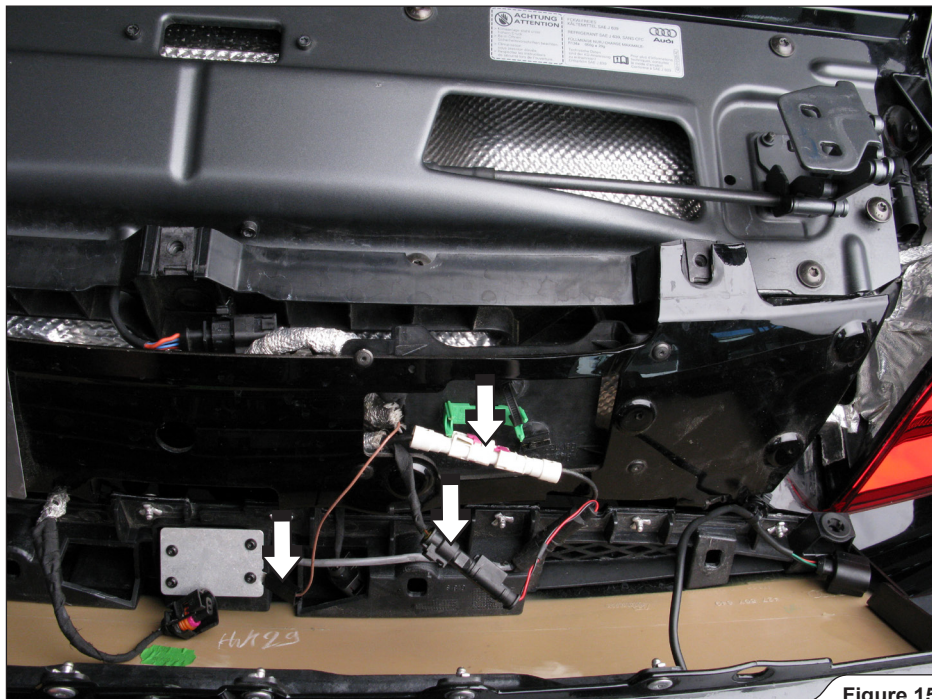

Figure 15
12. Disconnect the marked electrical connectors and carefully remove the tail trim off the vehicle (Figure 15).